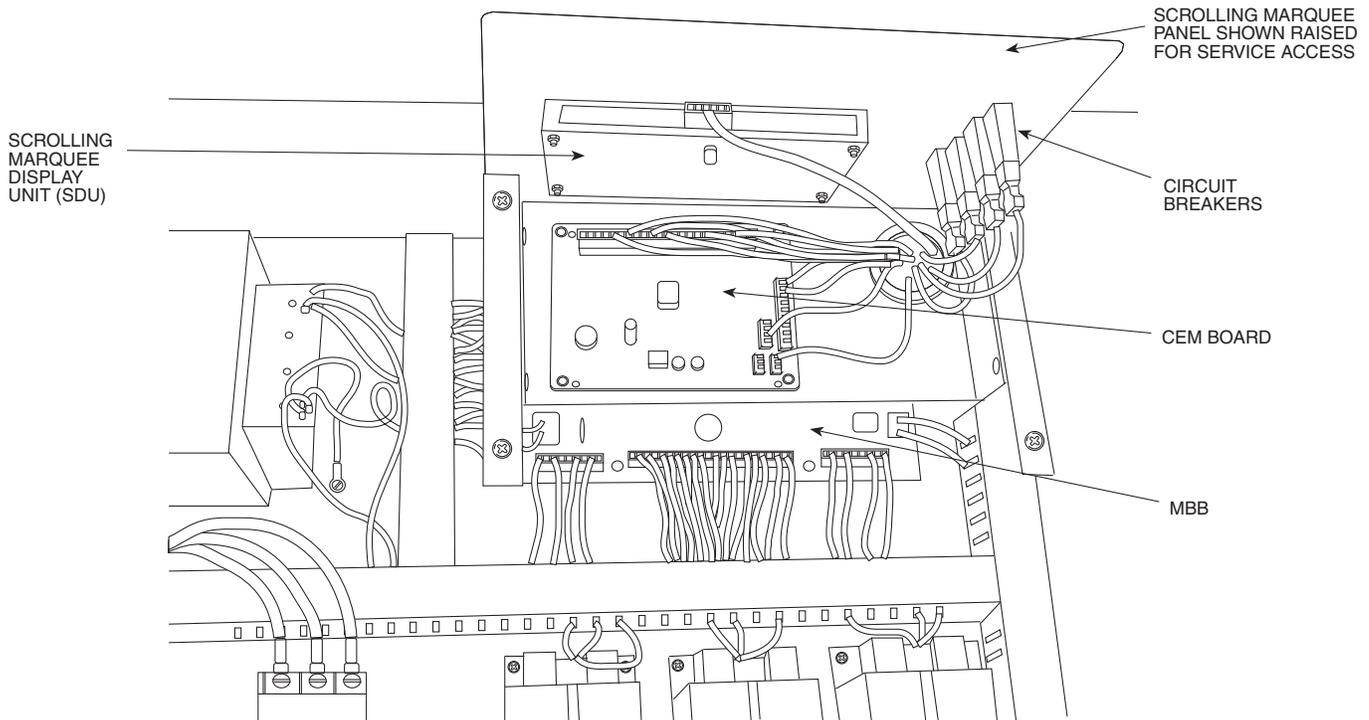

Fig. 7 — Attach CEM Bracket
12. Attach CEM mounting bracket inside Scrolling Marquee display mounting bracket with 4 no. 8 x 1/2-in. screws. See Fig. 7.